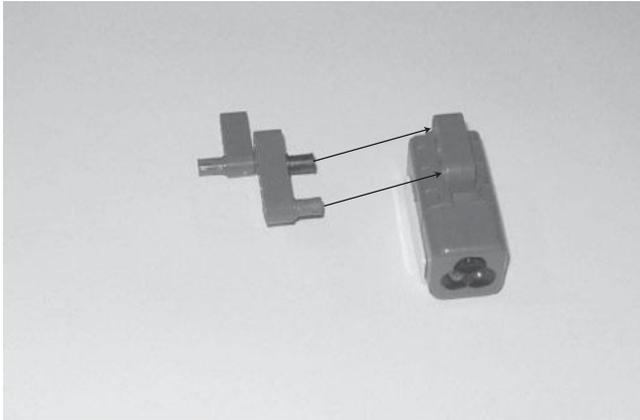

Figure 12.23
Step 2: Connect the 2×4 perpendicular beam to the 3M straight beam by inserting one end of the 3M Connector Peg into the hole located in the foot of the 2×4 Perpendicular beam, and then connect the resulting component to the color sensor, as shown in Figure 12.23.